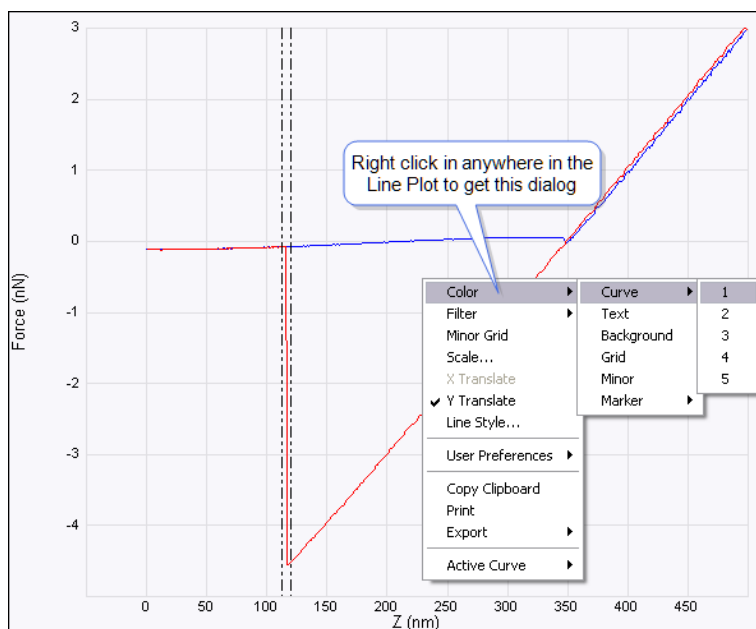

Figure 7.2h: Options to Change Color of Plot Items
- It is often advantageous to change the color of many of the items in the Line Plot so that they can be differentiated. To change the color of the Curves, Text, Background, Grid, or Markers, right click in the Line Plot and select Color > Preferred item to change. See Figure 7.2h.